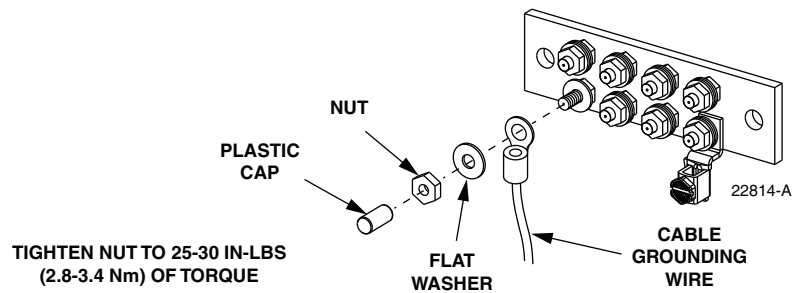

Figure 19. Connecting Grounding Cable to Grounding Block
3. Remove the protective plastic cap, nut, and flat washer from one of the grounding studs on the grounding block as shown in Figure 19.